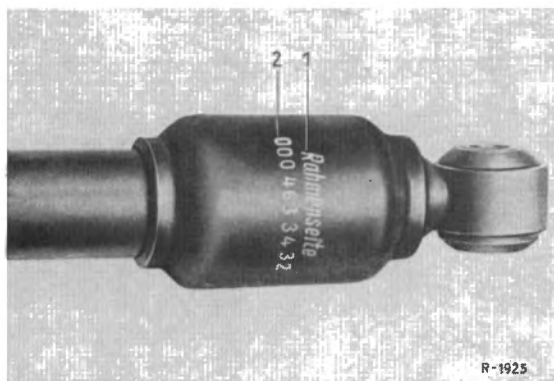

Fig. 46-10/3
4. Install the steering shock-absorber, making sure that the side with the inscription 'Rahmenseite' (chassis side) points toward the bracket on the chassis base panel (Fig. 46-10/3).